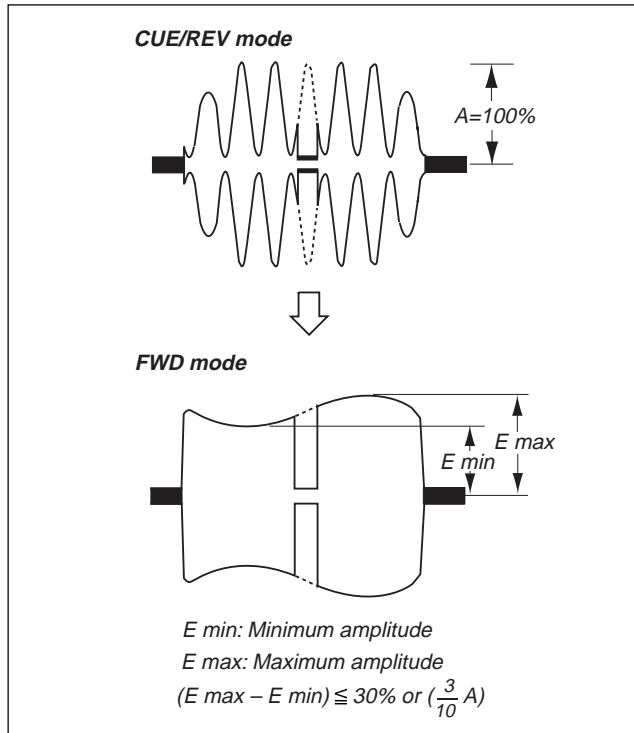

Fig. 6-2-16
- 2) Establish the CUE (or REV) mode. Take the amplitude (A) in this mode as the 100% waveform amplitude. (Refer to Fig. 6-2-16.)
- 3) Establish the FWD mode. Confirm that the difference between the minimum (E min) and the maximum (E max) is less than 30%. (When taking the amplitude (A) in the CUE or REV mode as 100%)